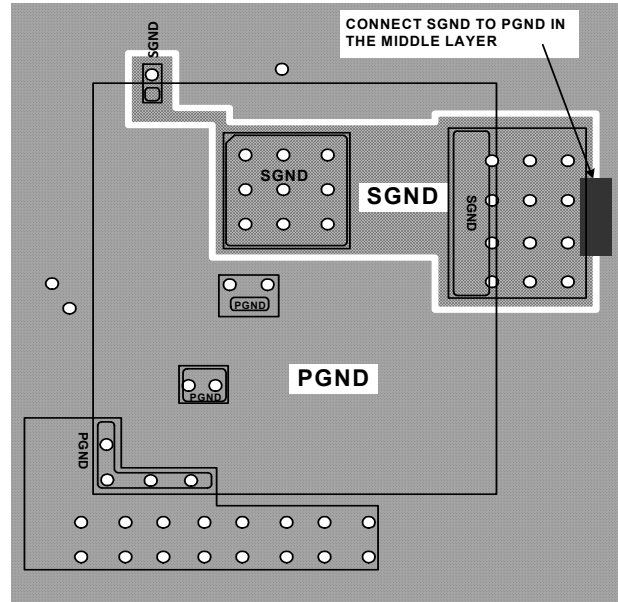

FIGURE 30. RECOMMENDED LAYOUT - CONNECT SGND TO PGND IN THE MIDDLE PCB LAYER AFTER ESTABLISHING SEPARATE SGND AND PGND
- Establish a separate SGND plane and PGND plane, then connect the SGND to the PGND plane as shown in Figure 30 in the middle layer. For making connections between SGND/PGND on the top layer and other layers, use multiple